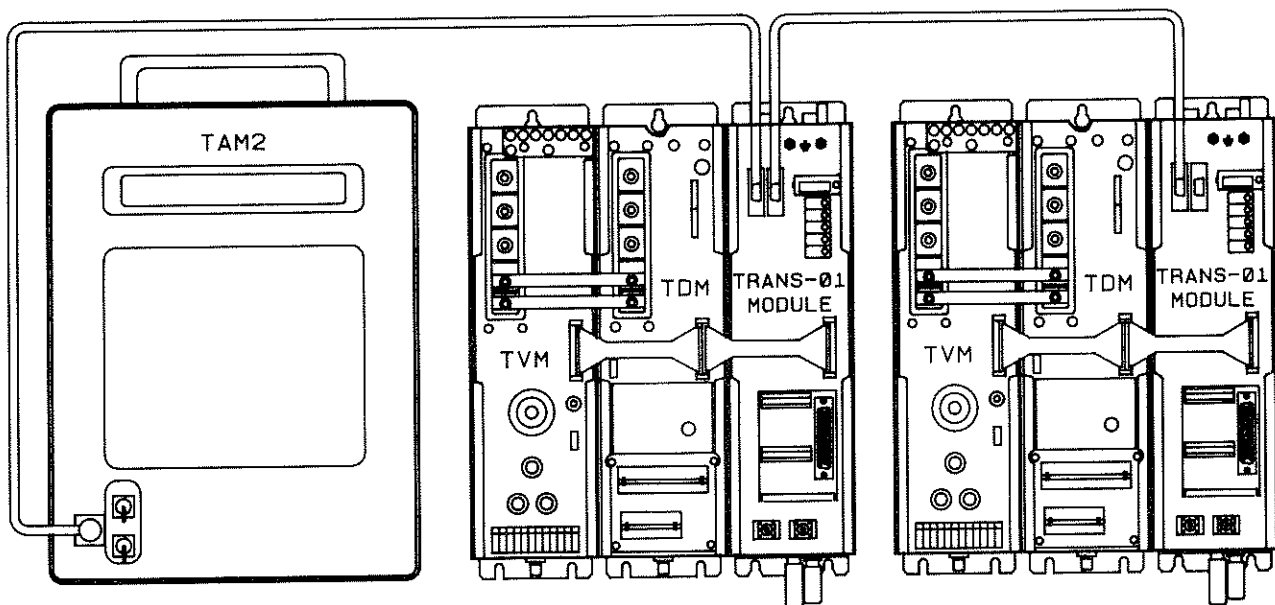

Figure 3-1. Connecting the Portable TAM
- a. Connect the serial channel cable from the connector on the front of the TAM to connector X4 or X5 on the selected TRANS, as illustrated in Figure 3-1 below.